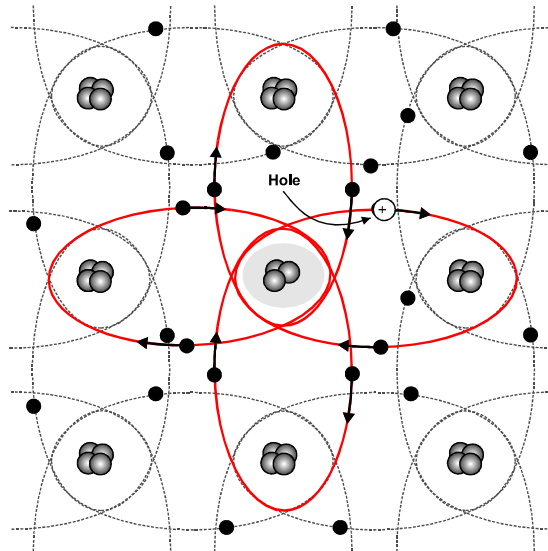

Figure 1.10
Similarly, if an atom with three valence electrons is added to intrinsic silicon, all of them will form covalent bonds with the adjacent silicon atoms. Since four electrons are required, a hole will appear in the semiconductor crystal. Thus, the doping process will create an additional hole, without leaving a free electron. Such a material is called **p-type**, as most of its carriers are holes. To create p-type semiconductors typically aluminum (Al), indium (In), boron (B) and gallium (Ga) are used. A p-type semiconductor is shown in Figure. 1.10.